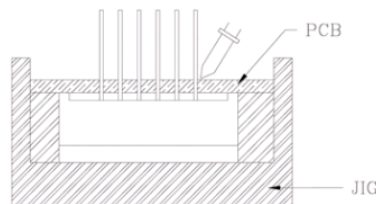

Fig.2
② When soldering wire to the lead, work with a jig (See Fig.2) to avoid stressing the package.